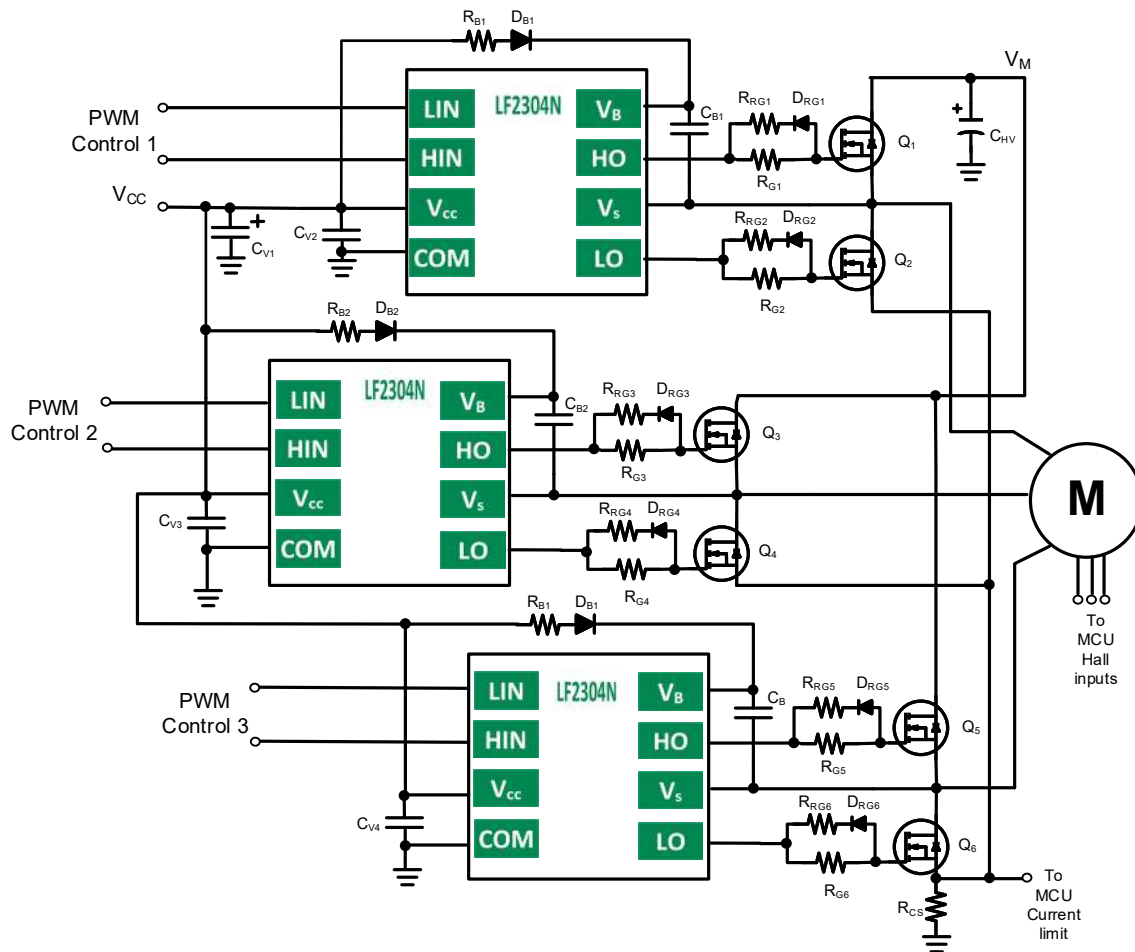
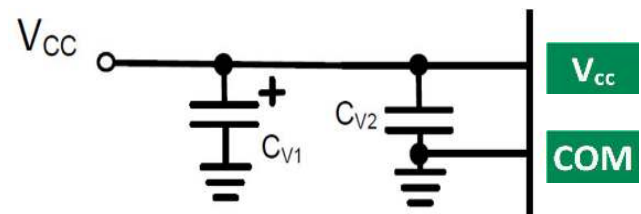

Figure 3. Three phase motor drive application example using the LF2304N
Figure 9. Suggested VCC decoupling
The LF2304N, half-bridge gate driver is used to optimally and efficiently drive the gate of MOSFETs or IGBTs. Below (figure 3) is an example application using the LF2304N with MOSFETs to make three halfbridge circuits used to drive a three phase motor. Typical 3 phase motor applications are AC Induction motors, PMSMs, and BLDC motors; the LF2304N also is typically used for stepper motor applications. LF2304N can also be used in power supplies. In this discussion, the important parameters needed to design in the LF2304N are discussed; main sections are bootstrap resistor, diode, and capacitor selection, gate driver component selection, decoupling capacitor discussion, and PCB layout suggestions.
Considering figure 3, when the low side MOSFET (Q2, Q4, or Q6) turns on, V_s pulls to GND and the bootstrap capacitor (CB1, CB2, and CB3) is charged. When the high side MOSFET (Q1, Q3, and Q5) is turned on, V_s swings above V_{CC} and the charge on the bootstrap capacitor (CB) provides current to drive the IC high side gate driver. The first charge of CB from V_{CC} through the bootstrap resistor (RB1, RB2, and RB3) and bootstrap diode (DB1, DB2, and DB3) occurs when power is first applied and low side turns on the first time. At this time the charge current is the largest as typically CB is not discharged fully at each cycle during normal operation
As shown in fig 9, two decoupling capacitors are recommended $CV1$ and $CV2$. $CV1$ can be a larger electrolytic, for example 47mF, 50V, used to dampen low frequency drains on supply; $CV1$ does not need to be right next to the IC. But $CV2$ is used to decouple faster edge changes to v_{CC} and should be a low ESR ceramic capacitor placed close to the V_{CC} pin. This component provides stability when V_{CC} is quickly pulled down with load from the IC; typical values are 0.1mF to 1mF. For applications with multiple gate driver ICs (for example BLDC motor drive with 3 x gate drivers as shown in figure 3), one larger electrolytic ($CV1$) can be used and the three ceramic caps ($CV2$, $CV3$, $CV4$) should be used close to the V_{CC} pin (see Layout section also).